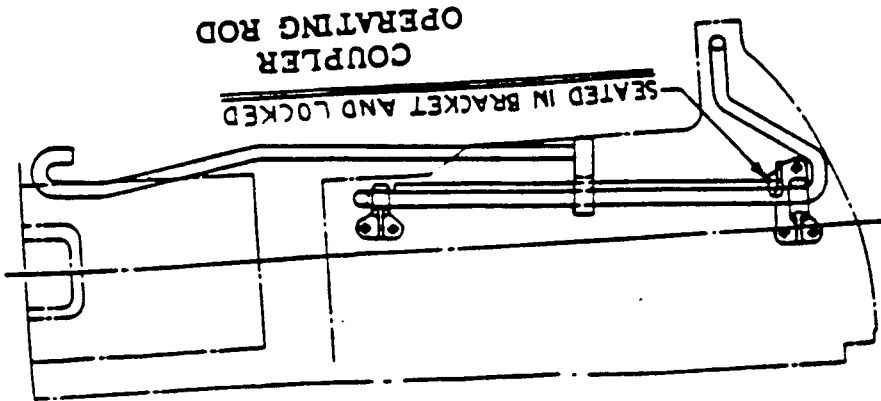

FIG. 1
3. The coupler operating mechanism should be in good condition operating freely. Check to see that the uncoupling rod handle is in a locked position when the handle comes to rest (Figure 1).